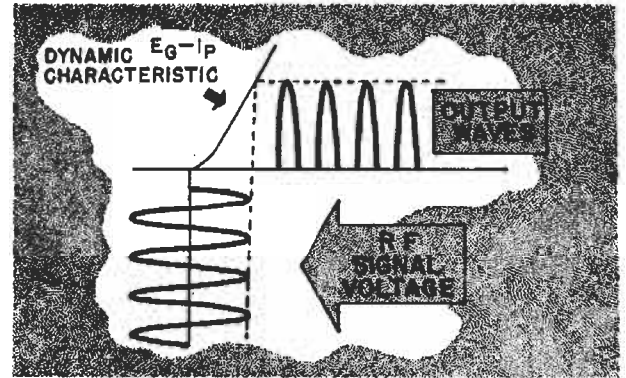

FIG. 7. Operating an r.f. stage at cut-off, the output wave is a series of pulses, but they are reconstructed by the following resonant circuit.
ϕ is forced to operate on the curved portion of its characteristic (Fig. 7) by, say, excess bias and low screen voltage caused by leakage in condenser C_1 .
► Similarly, the first detector is designed to operate at the plate current cut-off point just like any other detector. It must cut off half the wave (Fig. 7) to give the necessary mixing action. If a defect occurs *the detector may work on the straight portion of its curve* and become more of an amplifier than a detector. Some mixing of